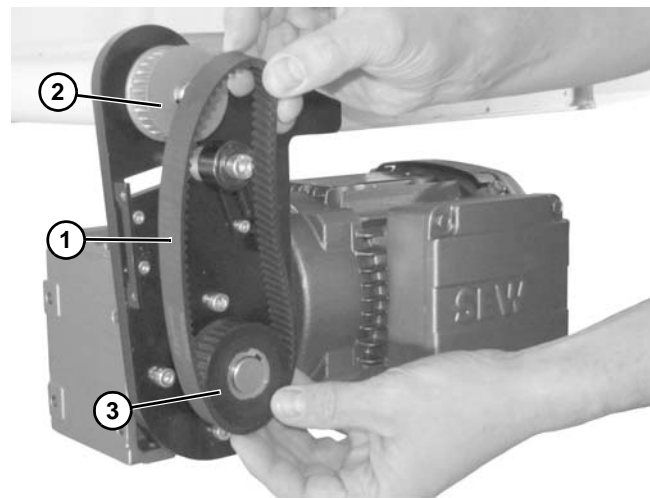

Figure 9
- Wrap timing belt (Figure 9, item 1) around driven pulley (Figure 9, item 2) and drive pulley (Figure 9, item 3). Install driven pulley (Figure 9, item 2) onto conveyor shaft.